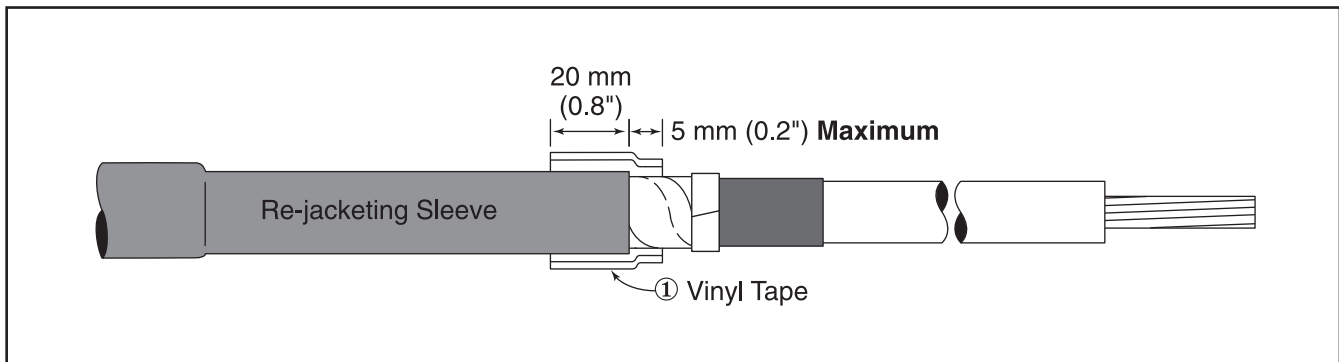

Figure 11
5.3 Secure re-jacketing sleeve with two half-lapped layers of vinyl tape (*Figure 11*). Start taping 0.8" (20 mm) over re-jacketing sleeve, extend 0.2" (5 mm) over cable metallic shield and return to starting point.